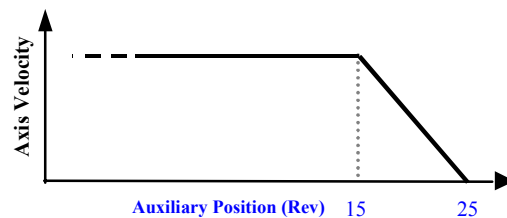

Figure 5-11. Stopping a Pulse-based Continuous Move
Once the continuous move is initiated it will continue to track the pulse input until commands are issued to stop the motion. Although the HALT (HT) command will immediately stop the move with full system deceleration it is recommended that you stop the continuous move using the STOP (ST) command. This allows you to specify the deceleration. To execute a pulse-based stop you specify the auxiliary axis position where the deceleration will start (MPS), the auxiliary axis distance over which the deceleration should occur (MPL) and the STOP command (ST). Sample code for a pulse-based stop is shown below and the resulting profile is shown in Figure 5-11.